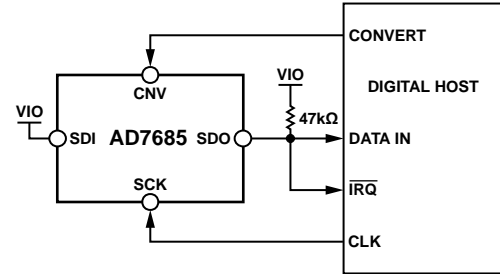
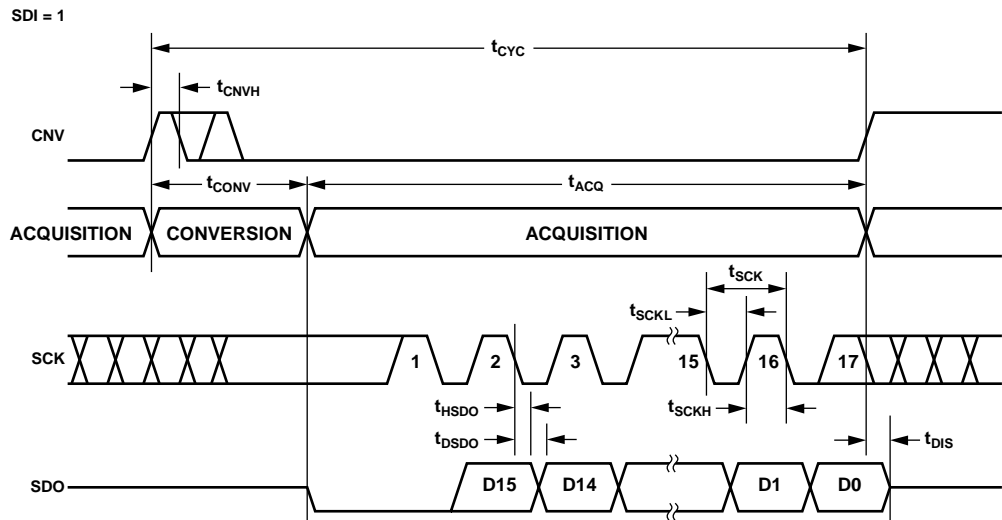
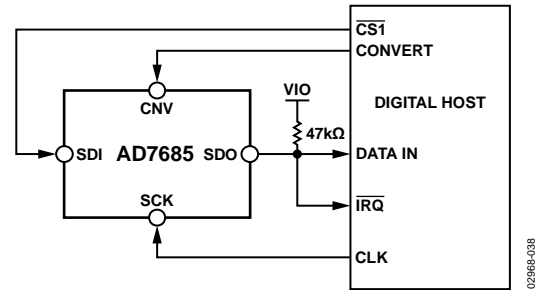
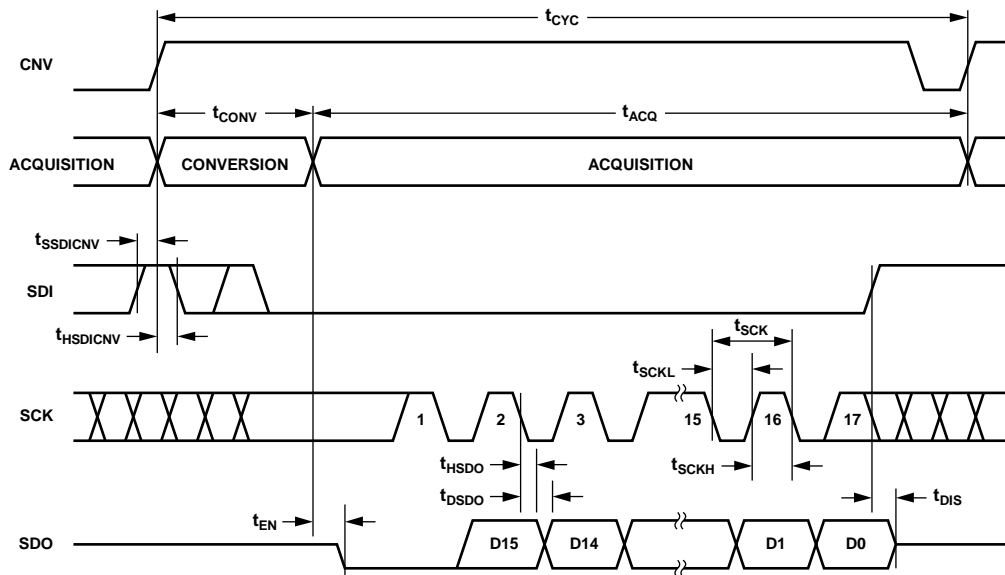

Figure 36.  $\overline{\text{CS}}$  Mode 3-Wire with BUSY Indicator Connection Diagram (SDI High)
Figure 37.  $\overline{\text{CS}}$  Mode 3-Wire with BUSY Indicator Serial Interface Timing (SDI High)
Figure 40. CS Mode 4-Wire with BUSY Indicator Connection Diagram
Figure 41. CS Mode 4-Wire with BUSY Indicator Serial Interface Timing
- In the  $\overline{CS}$  mode, if CNV or SDI is low when the ADC conversion ends (see Figure 37 and Figure 41).
The connection diagram is shown in Figure 36, and the corresponding timing is given in Figure 37.
The connection diagram is shown in Figure 40, and the corresponding timing is given in Figure 41.